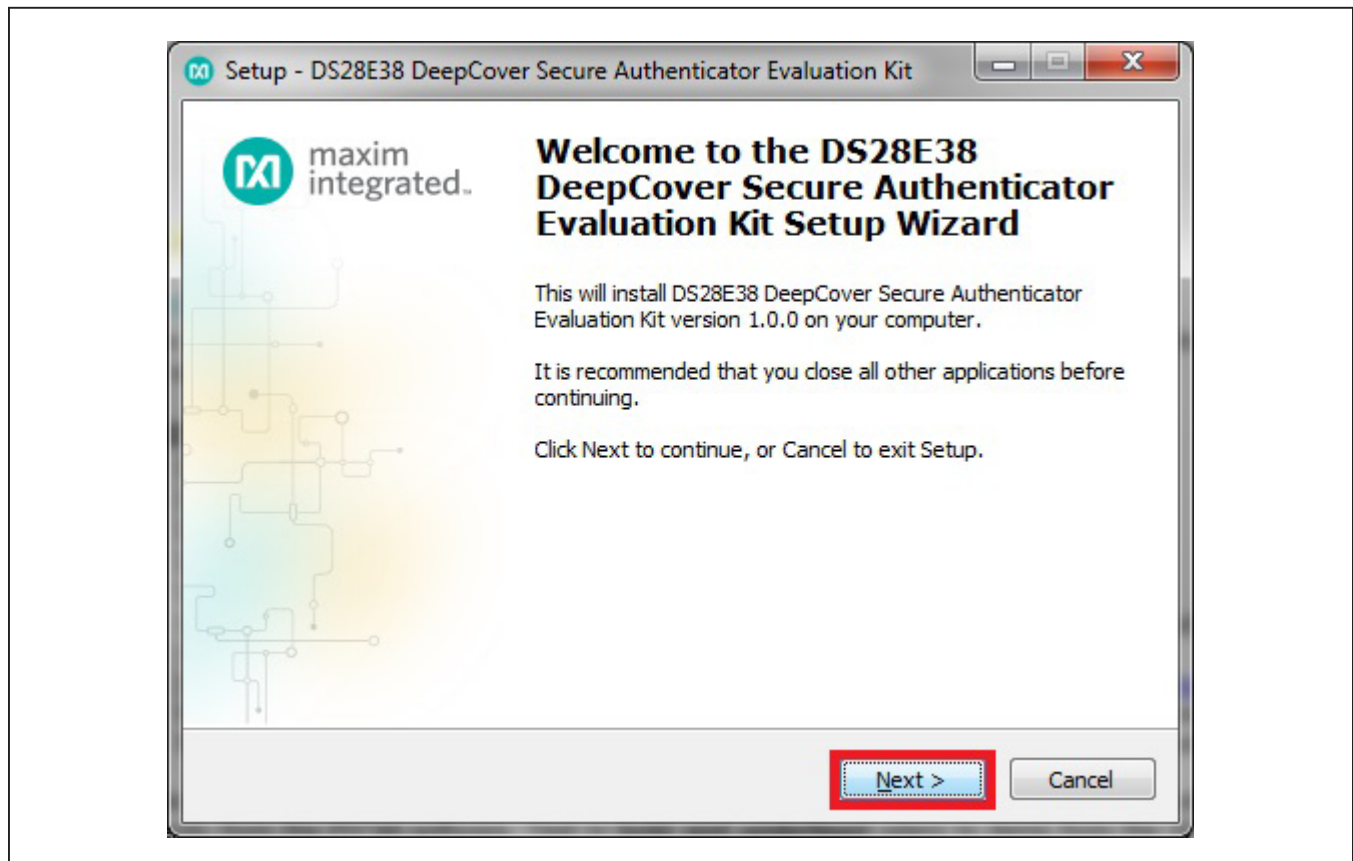

Figure 2. DS28E38 Setup Wizard
- 3) The setup wizard opens; click on **Next**, as shown in Figure 2.